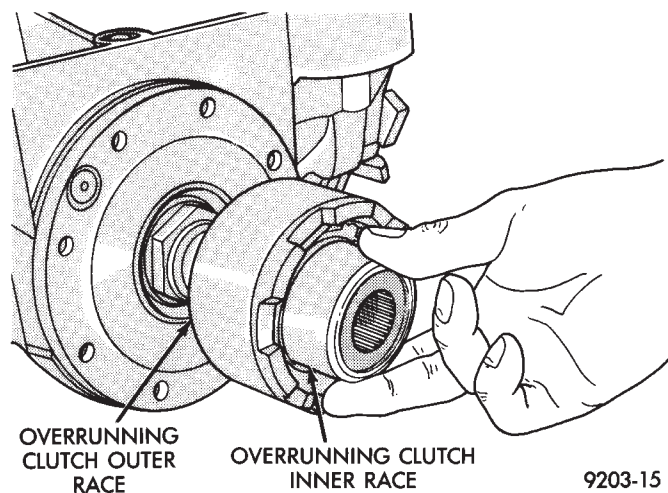
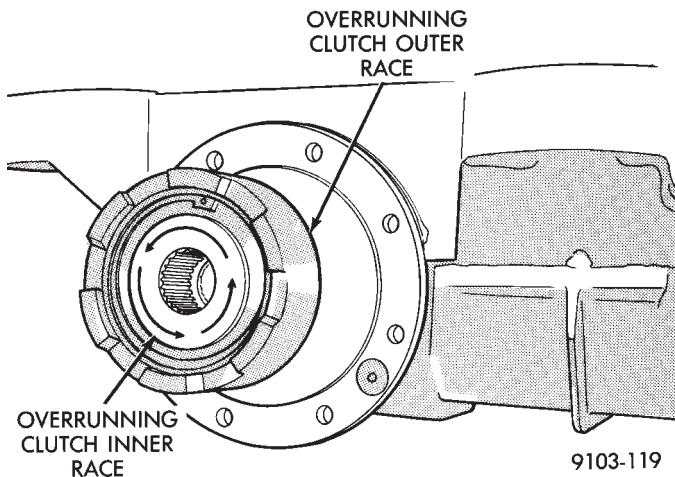
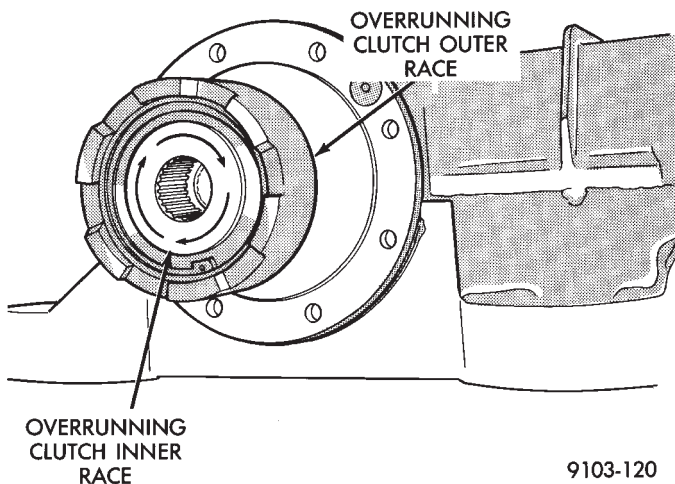

Fig. 16 Temporarily Install Inner Race
Fig. 17 Turn Inner Race Counterclockwise
Fig. 18 Turn Inner Race Clockwise
(3) To check for proper installation of the overrunning clutch, temporarily install the inner race into the overrunning clutch with the tapered end going in first (Fig. 16). The inner race should spin when turned counterclockwise (Fig. 17) and grab when turned clockwise (Fig. 18).